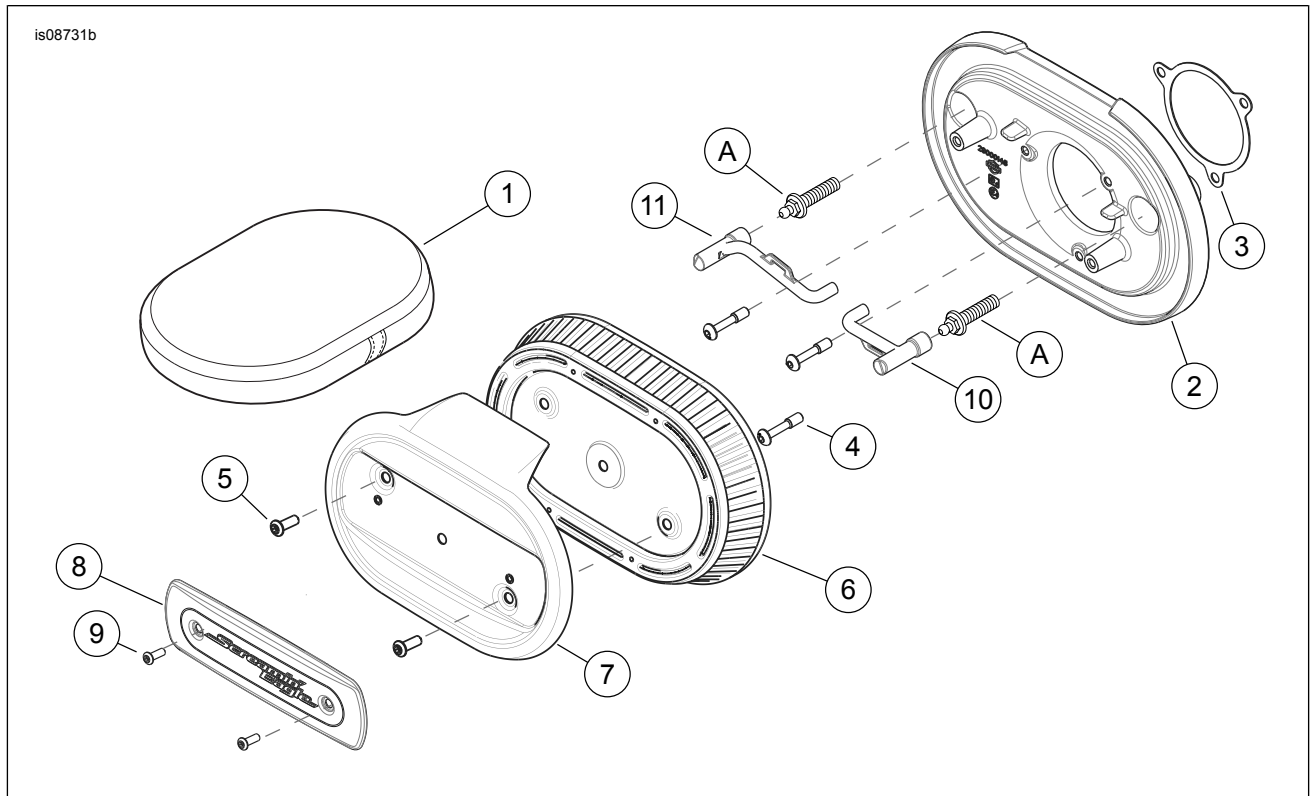

Figure 2. Service Parts: Milwaukee-Eight Screamin' Eagle Ventilator Air Cleaner Kit
See Figure 2 and Table 1.
1. See Figure 2. Peel the protective strip off the gasket (3) and place the adhesive side onto the backplate (2). Align to the equally spaced screw holes, and position the gasket carefully before firmly pressing the gasket into place.
2. Insert OE breather screws (A) through the backplate.
5. Install air cleaner screws (4) all the way through the backplate (2) until the screw threads are captured in the induction module. Do not completely tighten at this time..
1. See Figure 2. Install breather tubes (10 and 11) to breather screw nipple and ribs in the backplate.
2. Install air filter element (6) and cover (7) to backplate using button hex cap screws (5). Tighten to: